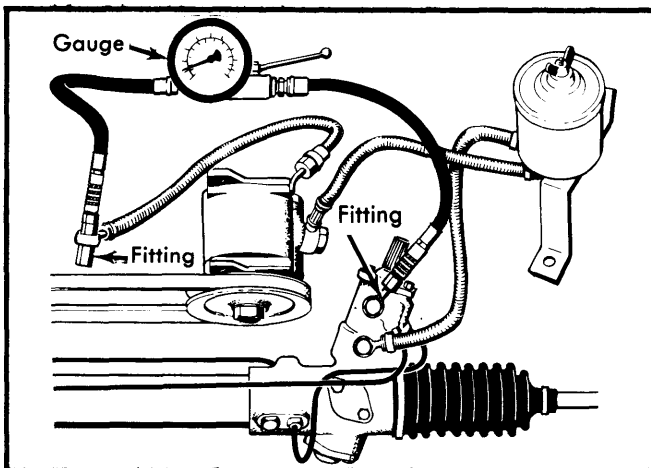

Fig. 1 Pressure Gauge Test Set Up
**Testing** – 1) Connect a pressure gauge as shown in Fig. 1). Make sure oil in reservoir is at level mark.
1) – With pressure gauge connected as shown in Fig. 1, and engine at idle, turn steering wheel fully to left, then fully to right, pressing at end position for a maximum of 10 seconds. Correct pressure should be 895-995 psi (63-69 kg/cm2) for the Saginaw pump and 825 psi (58 kg/cm2) for the ZF pump.